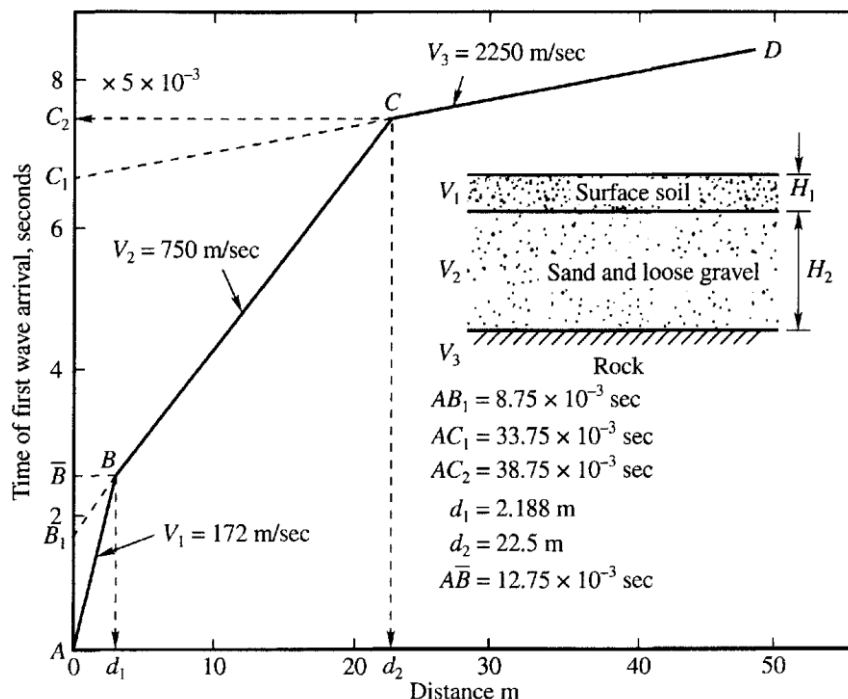

Fig. 2
4. (a) A seismic survey was carried out for a large project to determine the nature of the substrata. The results of the survey are given in Fig. 2 in the form of a graph. Determine the depths of the strata.